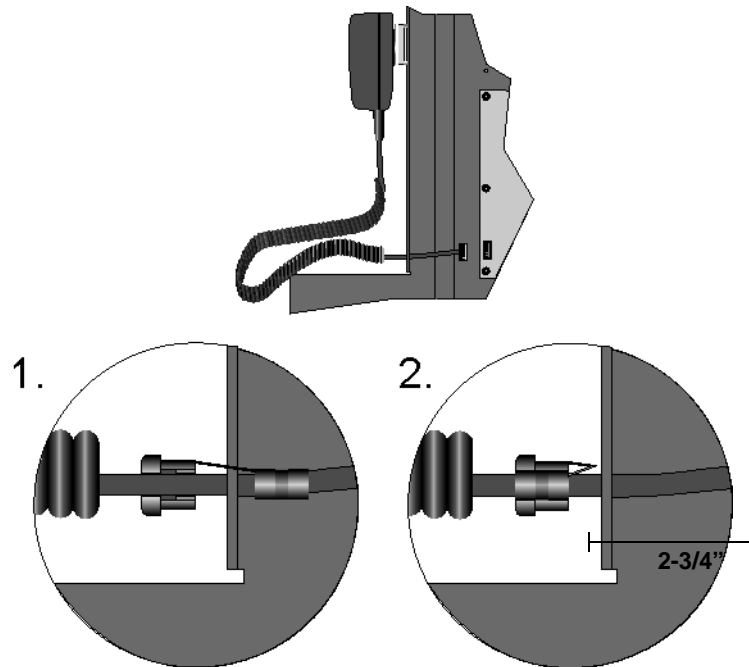

Figure 4-56 Installing Strain Relief Clip
3. Attach strain relief clip to microphone cord. The strain relief clip should have about 2¾" of microphone cord through it. See Figure 4-56.